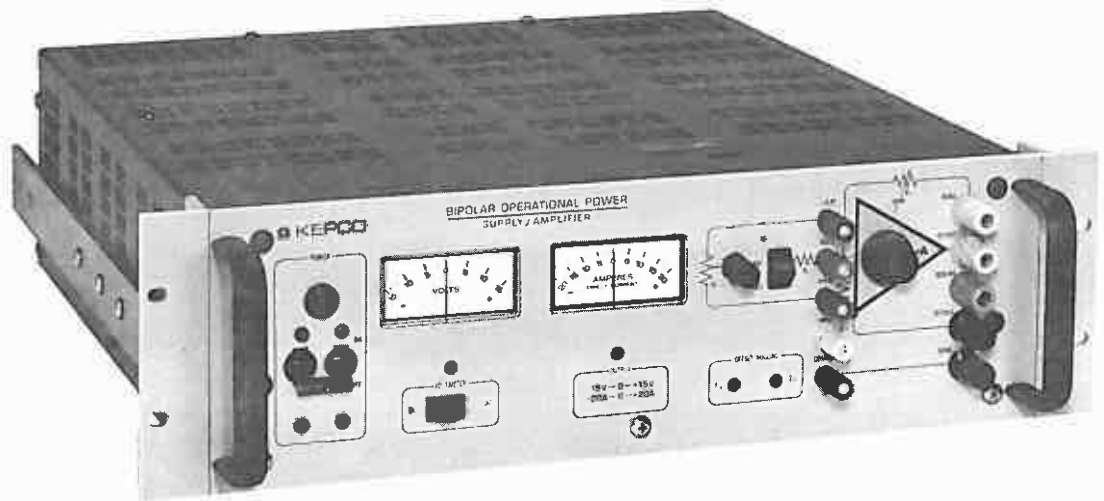

FIG. 1-1 TYPICAL FRONT VIEW, KEPCO BIPOLAR OPERATIONAL POWER SUPPLY.
- 1-4 The Kepco Models BOP 15–20M and BOP 15–20 are similar in their electrical design, mechanical outline, and specifications except as described below. (Refer to FIG. 1-1.)
1-7 DESCRIPTION (Refer to FIGS. 1-1, 1-2.)